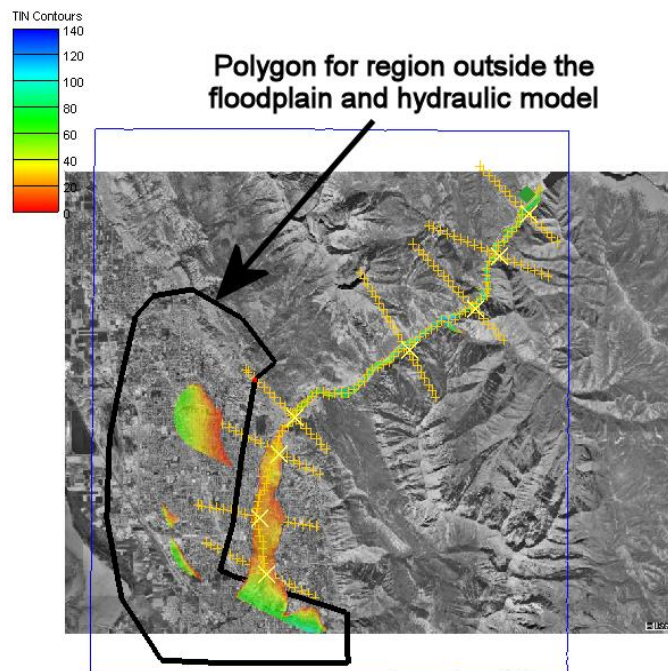

Figure 4-1: Creating a polygon for regions outside the model extents
17. Using the **Create Feature Arcs**  tool, draw an arc representing a polygon around the extra data that needs to be deleted. This includes areas clearly outside of the floodplain and areas where data does not exist to give accurate results, such as outside the extents of the hydraulic model (see Figure 4-1). WMS will ignore the areas inside this polygon when delineating the floodplain. Be sure the arc forms a closed loop.